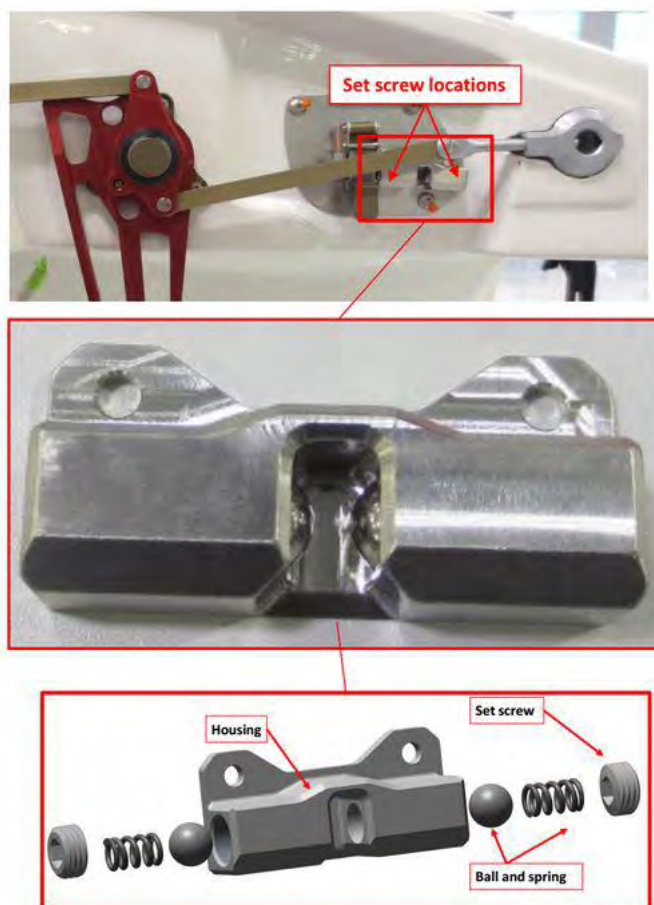

FIGURE 17-13
1. Locate the ICA008702 wing lock catch housing. It mounts to the wing lock switch plate and contains two opposing spring-loaded balls that pinch a feature in the wing lock handle, thus creating a detent that helps hold the handle in the up and locked position (See Figure 17-13).